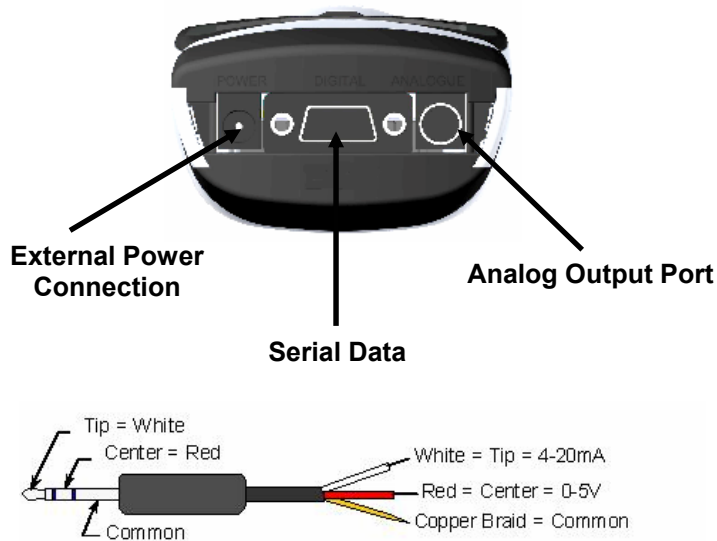

Figure 3 – Analog Output Port and Plug
- Analog Interface: 0-5 V and 4-20 mA. (Reference Figure 3). The analog output produces a signal proportional to the amount of hydrogen in air, an indication of Warm-Up Mode, or an indication of Error Mode as determined by the operator-selected format. (See section 5)